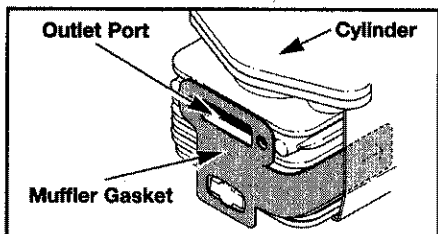

Fig. 30
1. Install a new gasket. Make sure the arrow stamped into the gasket is to your right. Tuck the tab (with the arrow) between the cylinder and plastic shroud (Fig. 30).